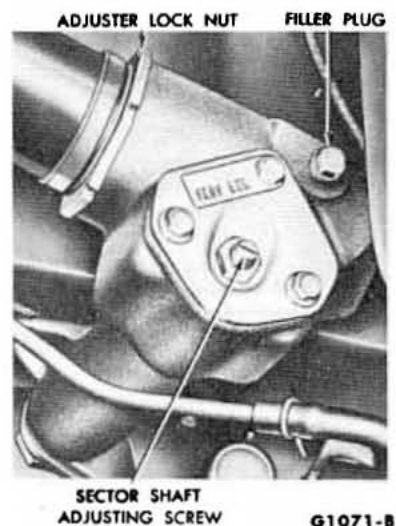

Fig. 63—Typical Steering Gear Adjustments—Comet and Fairlane
10. Measure the worm bearing preload by attaching an in.-lb. torque wrench to the steering wheel nut (Figs. 63 and 64). With the steering wheel off center, read the pull required to rotate the input shaft approximately 1 $\frac{1}{2}$ turns either side of center. If the torque or preload is not within specification (refer to Group 3 of the appropriate Shop Manual), adjust as explained in the next step.
11. Loosen the steering shaft bearing adjuster lock nut, and tighten or back off the bearing adjuster (Figs. 63 and 64) to bring the preload within the specified limits.